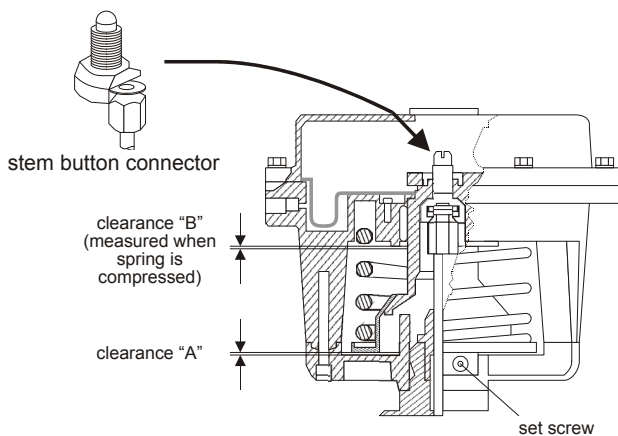

Fig. 4. Attaching the stem connector screw
2. Attach the stem connector screw to stem button (Fig. 4).